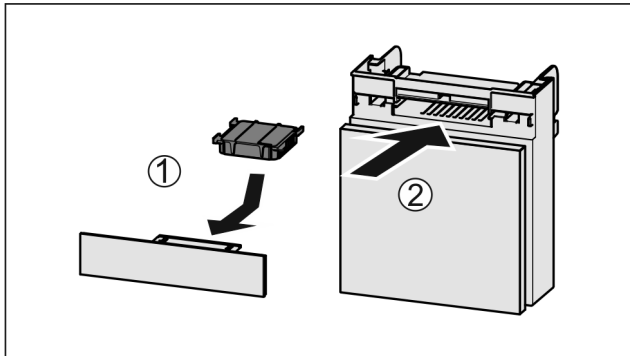

Fig. 58
- ▶ Insert the carbon filter as shown in the diagram *Fig. 58 (1)*.
- ▶ Push the compartment in *Fig. 58 (2)*.